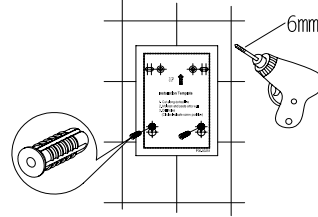

Fig. 3
2. Drill two holes dia. Ø6mm, peel off template & insert plastic. (Fig. 3)